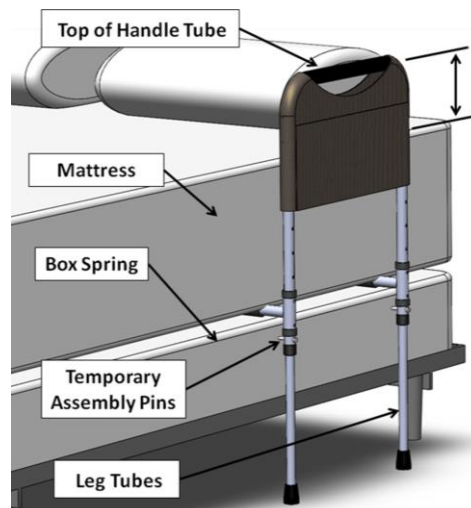

FIGURE 4
4. Place Base Tubes between the mattress and box spring of the bed. Remove the Temporary Assembly Pins and adjust the Leg Tubes so that the Leg Tubes engage the floor AND adjust the Top of the Handle Tube to a safe height relative to the Top of the Mattress. Realign the holes in the Leg Tubes with the Bottom holes in the Handle Tubes and insert the Temporary Assembly Pins as shown in Figure 4.